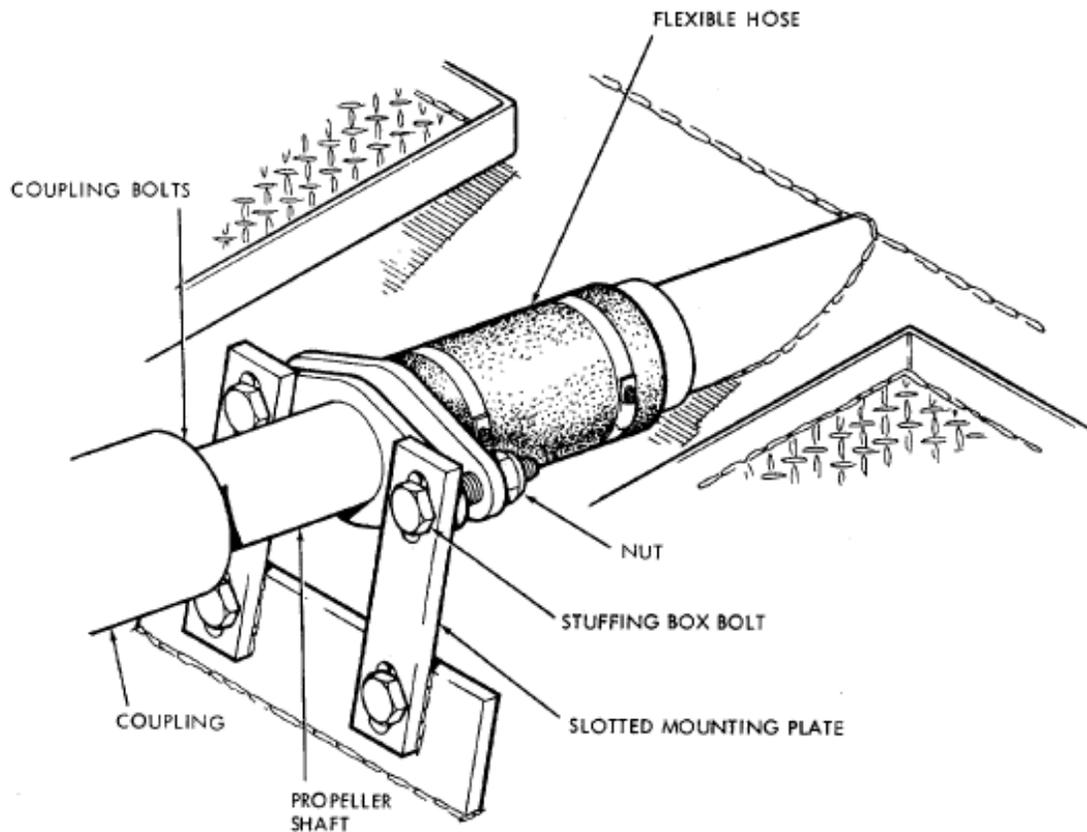

Figure 551-88L-3061\_01
3. Perform troubleshooting procedures for the propeller shaft mechanical seal, (refer to Figure 551-88L-3061\_02).